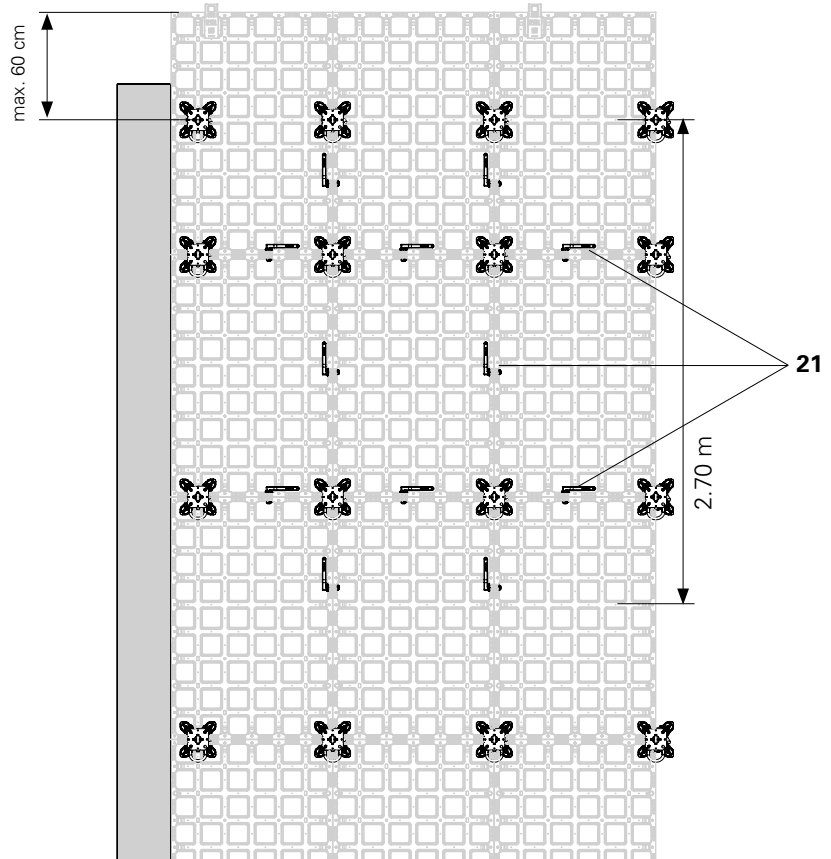

Fig. D4.07
- in the area of 2.7 m from the slab edge, each DP panel is connected on the short and long joints using 1 DUO coupler (21). (Fig. D4.07)